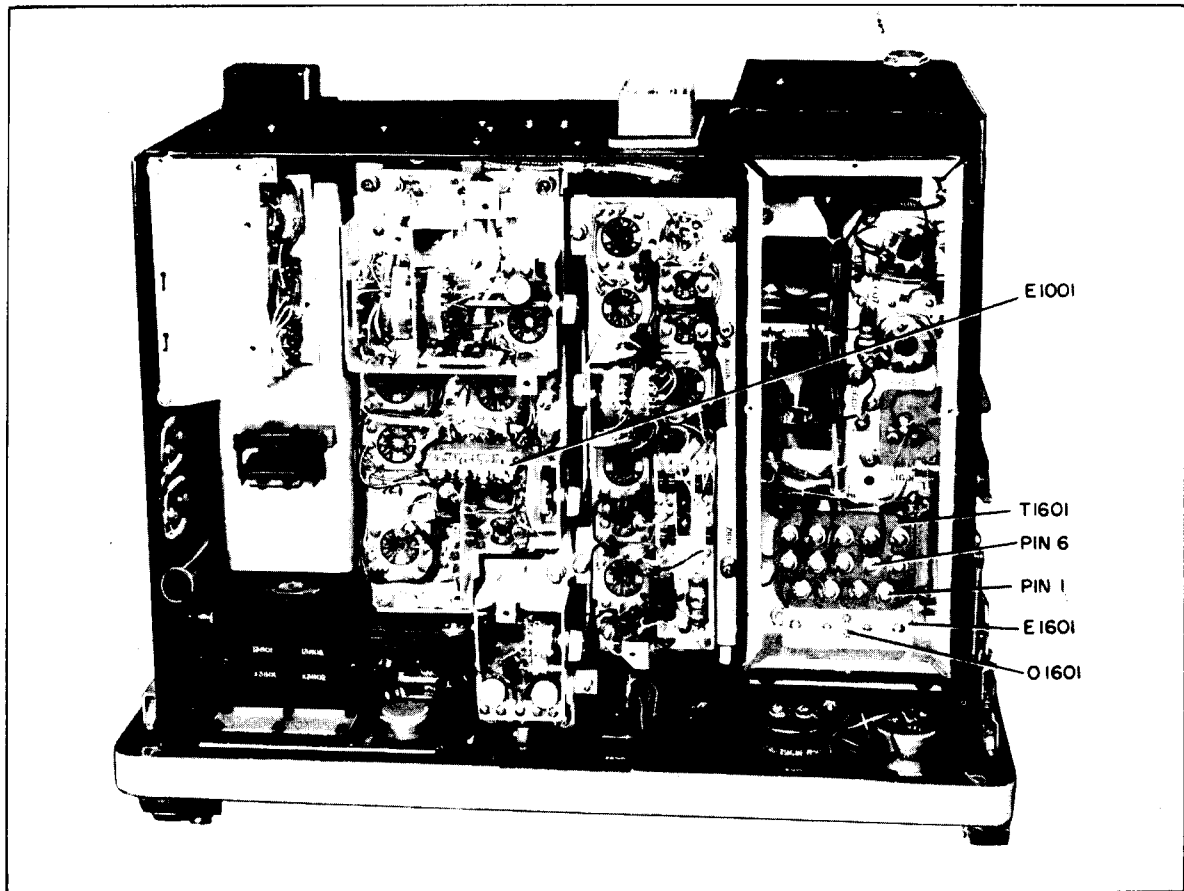

Figure 3-7. Initial Adjustment Component Location (Top View)
b. PRIMARY TAP SETTINGS.—Set the link O1601 on board E1601 in the power supply to most nearly correspond to the anticipated line voltage. Link board E1601 is accessible from the top of the chassis after the cover plate on the power supply is removed. (See figure 3-7.) Taps on E1601 are labeled 105, 115, and 125. If the receiver is to be operated
T1101 to meet the requirements of the applicable installation plan. See figure 3-7 for the location of T1101.